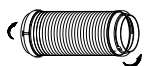

Fig. 4
1. Install the window Exhaust adaptor B onto the exhaust hose as shown in Fig. 4. Refer to the previous pages for window kit installation.